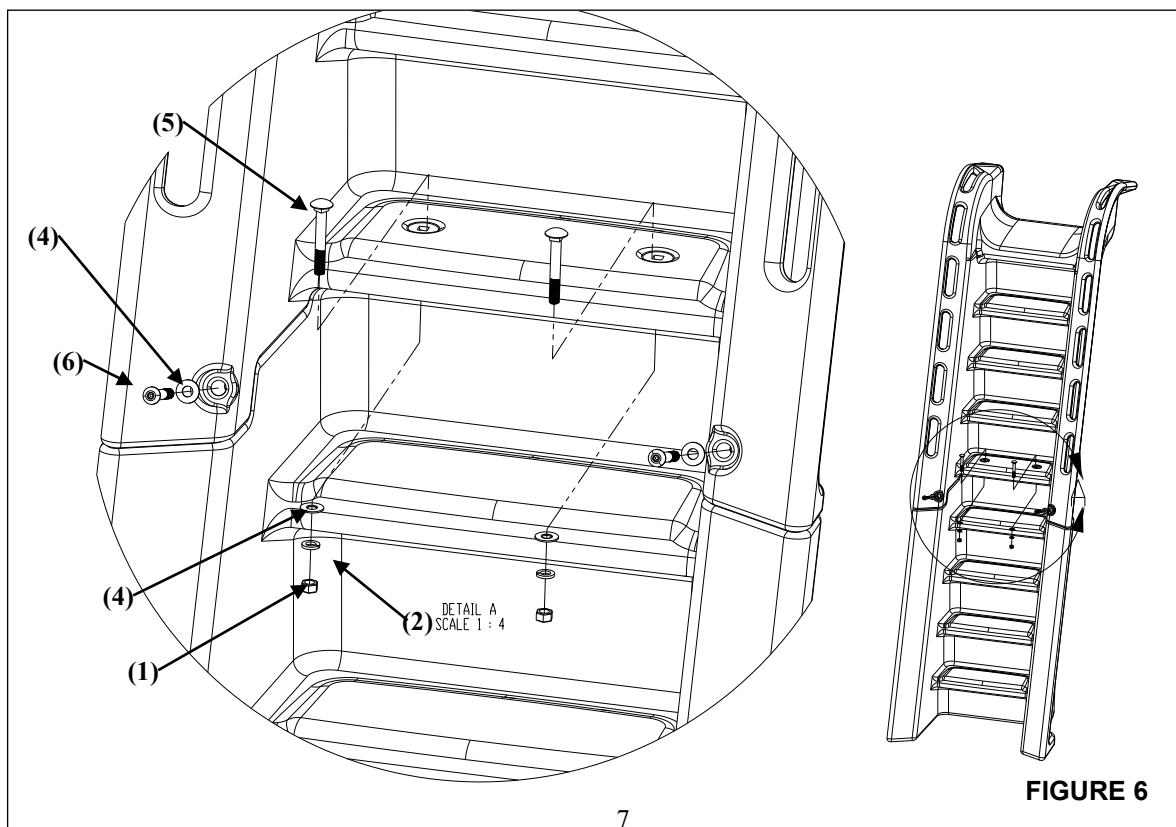

FIGURE 6
5) Assemble the top ladder section to the lower ladder section as shown in Figure 6. Insert the two button head cap screws into the threaded inserts as shown in Figure 6. **Do not fully tighten the screws at this point; just get the screws started into the threaded inserts. Note: Be sure to apply anti-seize to all fasteners to prevent galling.**
7) Insert the two carriage bolts into the steps as shown in Figure 6. Tighten the nuts onto the carriage bolt until the lock washer is fully compressed. **Note: Be sure to apply anti-seize to all fasteners to prevent galling.**